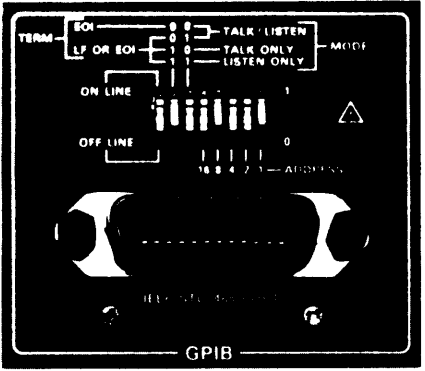

Figure 3. DIP switches and GPIB connector are located on the rear panel of the 7854.
- Step 1. Locate the GPIB connector and DIP selector switch on the 7854 upper rear panel. (See Fig. 3.)